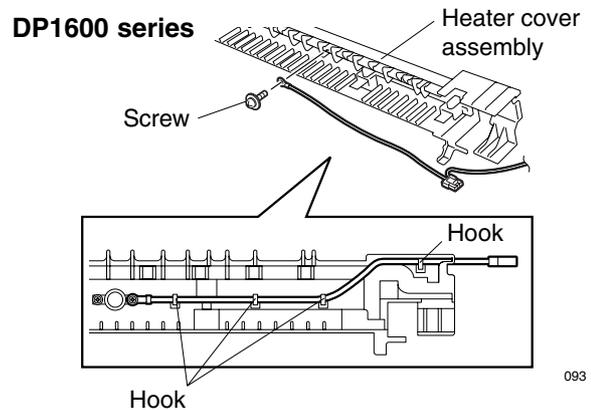

Fig. 14-7-17
7. Remove the heater lamp. (See Figs. 14-7-17, 14-7-19 and 14-7-20)